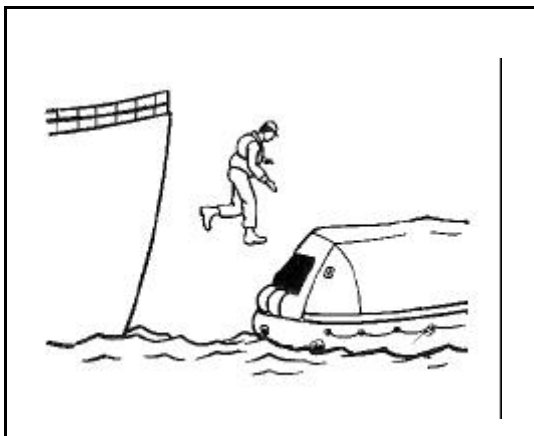

Figure 10-24. Jumping Into Canopy Opening
- By jumping into the canopy (Figure 10-24).